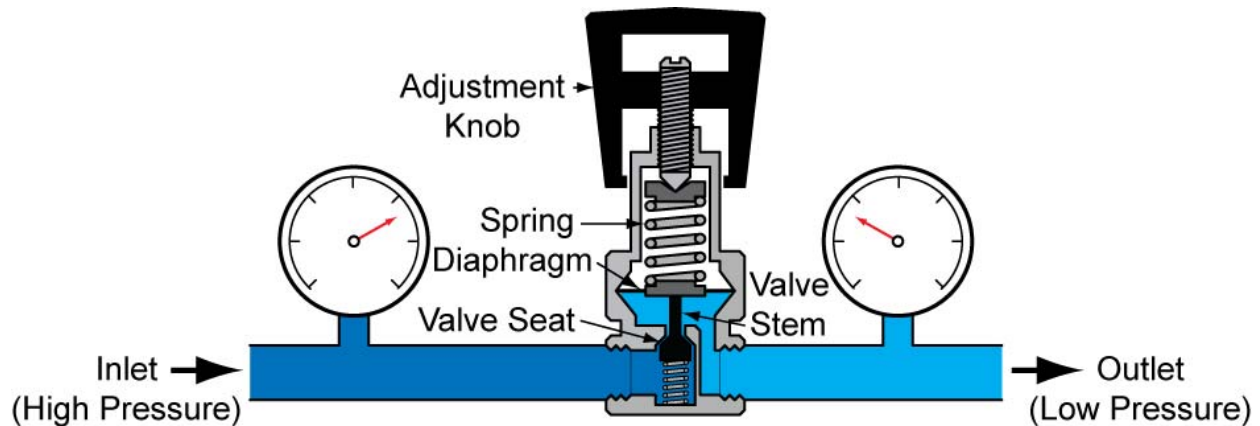

Figure 5: Single-Stage Pressure Regulator
- There are two basic types of regulator - single stage and two-stage. Figure 5 shows a single stage regulator in cross section. Two stage regulators (which are of similar construction to two single-stage regulators in series) give a steadier outlet pressure, and a finer control over the outlet pressure.